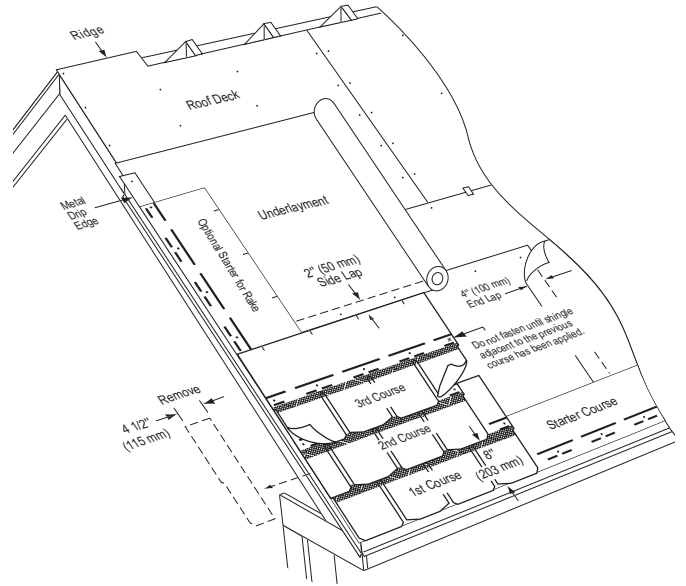
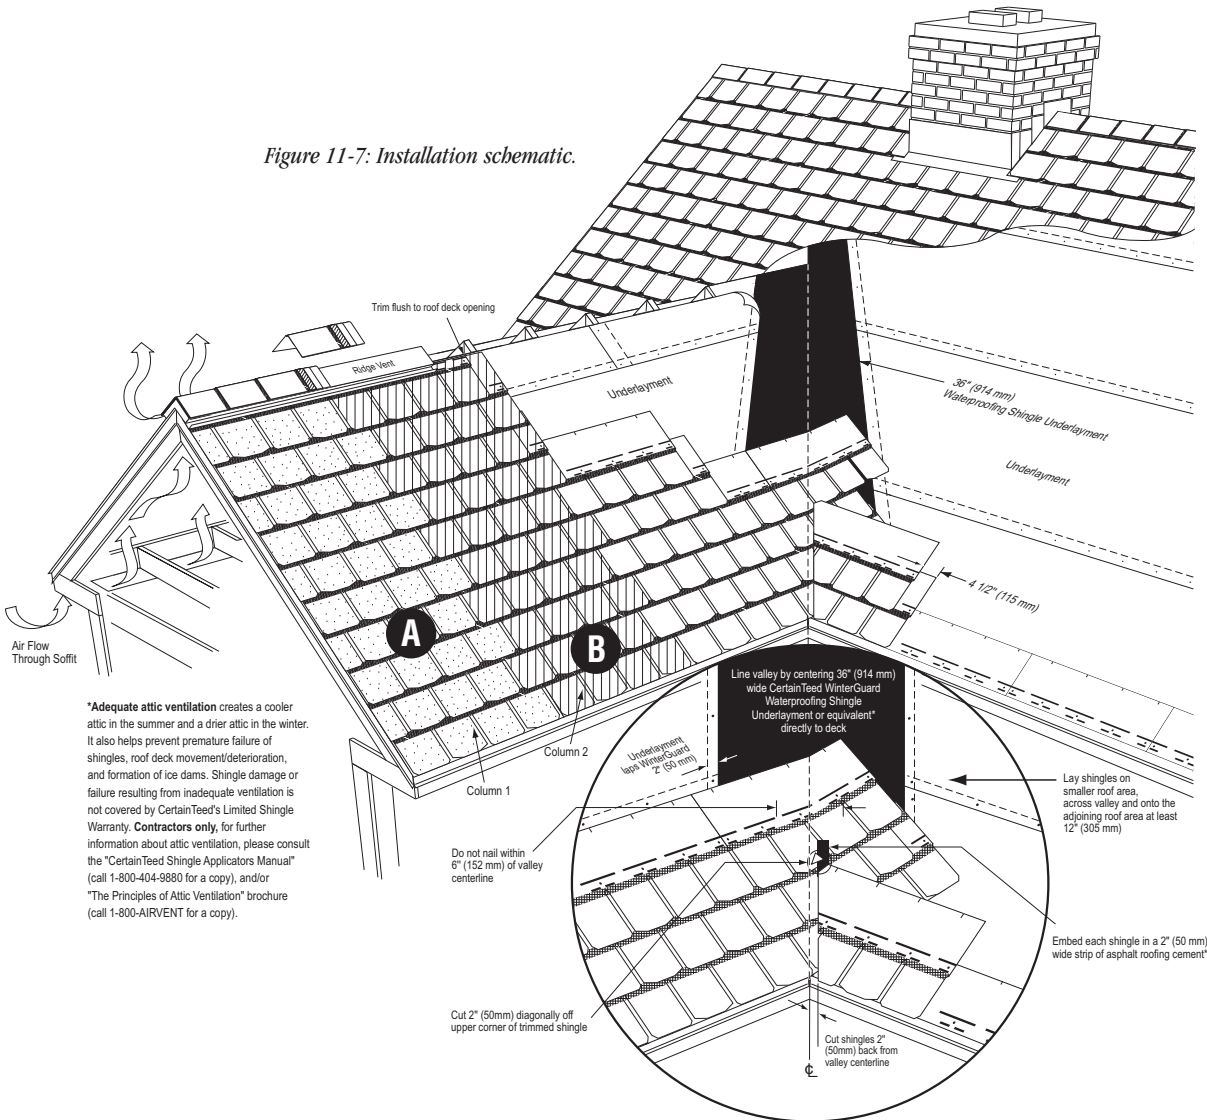

Figure 11-6: Applying the first three courses on a standard slope.
Figure 11-7: Installation schematic.
**1st Course:** (Figure 11-6). Apply a full Highland Slate shingle at the lower left corner of the roof, flush with the starter course left corner. Fasten with 5 nails.
**2nd Course:** (Figure 11-6). Cut  $4\frac{1}{2}$ " off the left end of a full shingle and apply remaining  $31\frac{1}{2}$ " piece over left edge of 1st course. Fasten with 5 nails and ensure 8" exposure.
**Succeeding Courses:** Begin application of the 3rd course with a full shingle. Fasten with 4 nails, **leaving the right end unfastened until later.** (Figure 11-6). Begin the 4th course using a shingle with  $4\frac{1}{2}$ " cut off its left end. (Figure 11-7, A). Fasten with 5 nails. To begin the application of subsequent courses, alternate full shingles [36"] and cut shingles [ $31\frac{1}{2}$ "] up the rake edge, fastening as described above. (Figure 11-7, A).
**Remaining Columns and Course Completion:** (Figure 11-7, B). Apply a full shingle against the right edge of each shingle in previous column. When applying a shingle against a covered shingle, carefully lift the right edge of the shingle above and slip the new shingle under it. Fasten as usual with 5 fasteners; then, fasten the loose right edge of the shingle above.